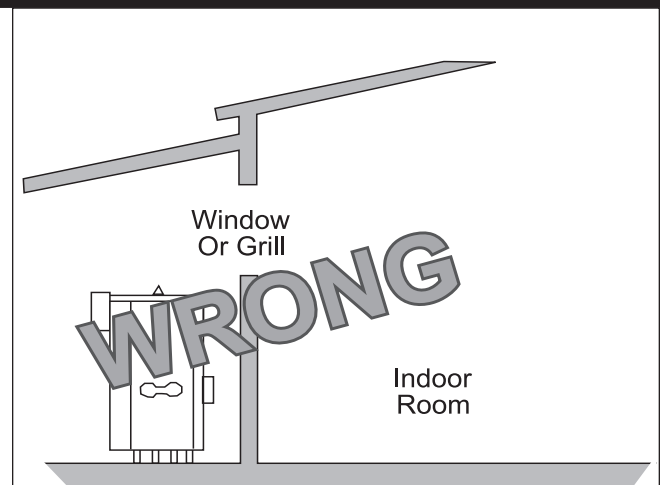

Figure 7. Incorrect Outdoor Installation.
2. Do not place the heater in an enclosure or wall recess. Avoid locations where wind deflection off structures might cause down draft. When such wind conditions are possible, place the heater at least three (3) feet from the structures.
3. Never install the heater under any kind of roof overhang. Do not place the heater below or adjacent to any doors, windows, louvers, grills, etc. which connect in any way with an inhabited area of a building. This includes other structures such as garages or utility rooms (see Figure 7).